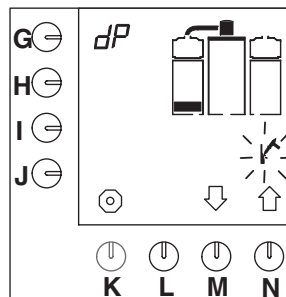

Fig. 17 First level descaling programme coffee-making system
- The first level block appears on the display and the hammer symbol flashes (fig.17).